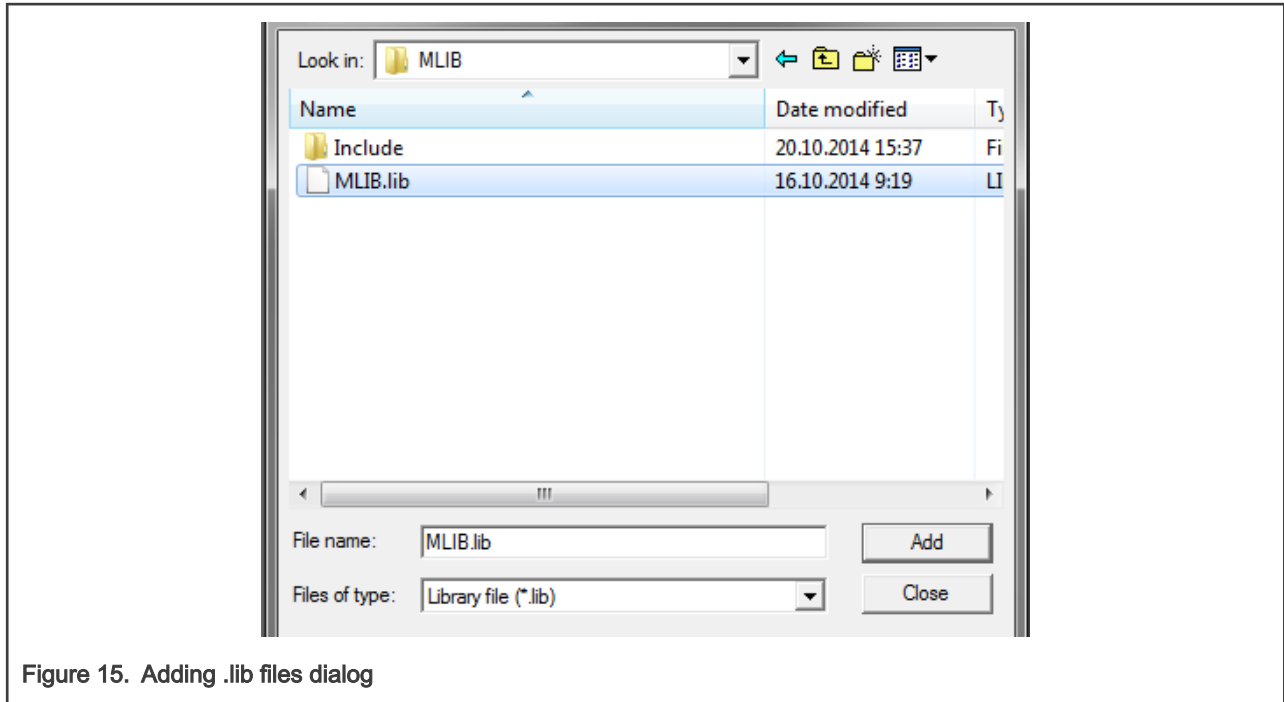

Figure 15. Adding .lib files dialog
5. Navigate to the parent folder C:\NXP\RTCESL\CM33F_RTCESL_4.7_KEIL\MLIB, and select the *mlib.lib* file. If the file does not appear, set the Files of type filter to Library file. Click Add. See Figure 15.